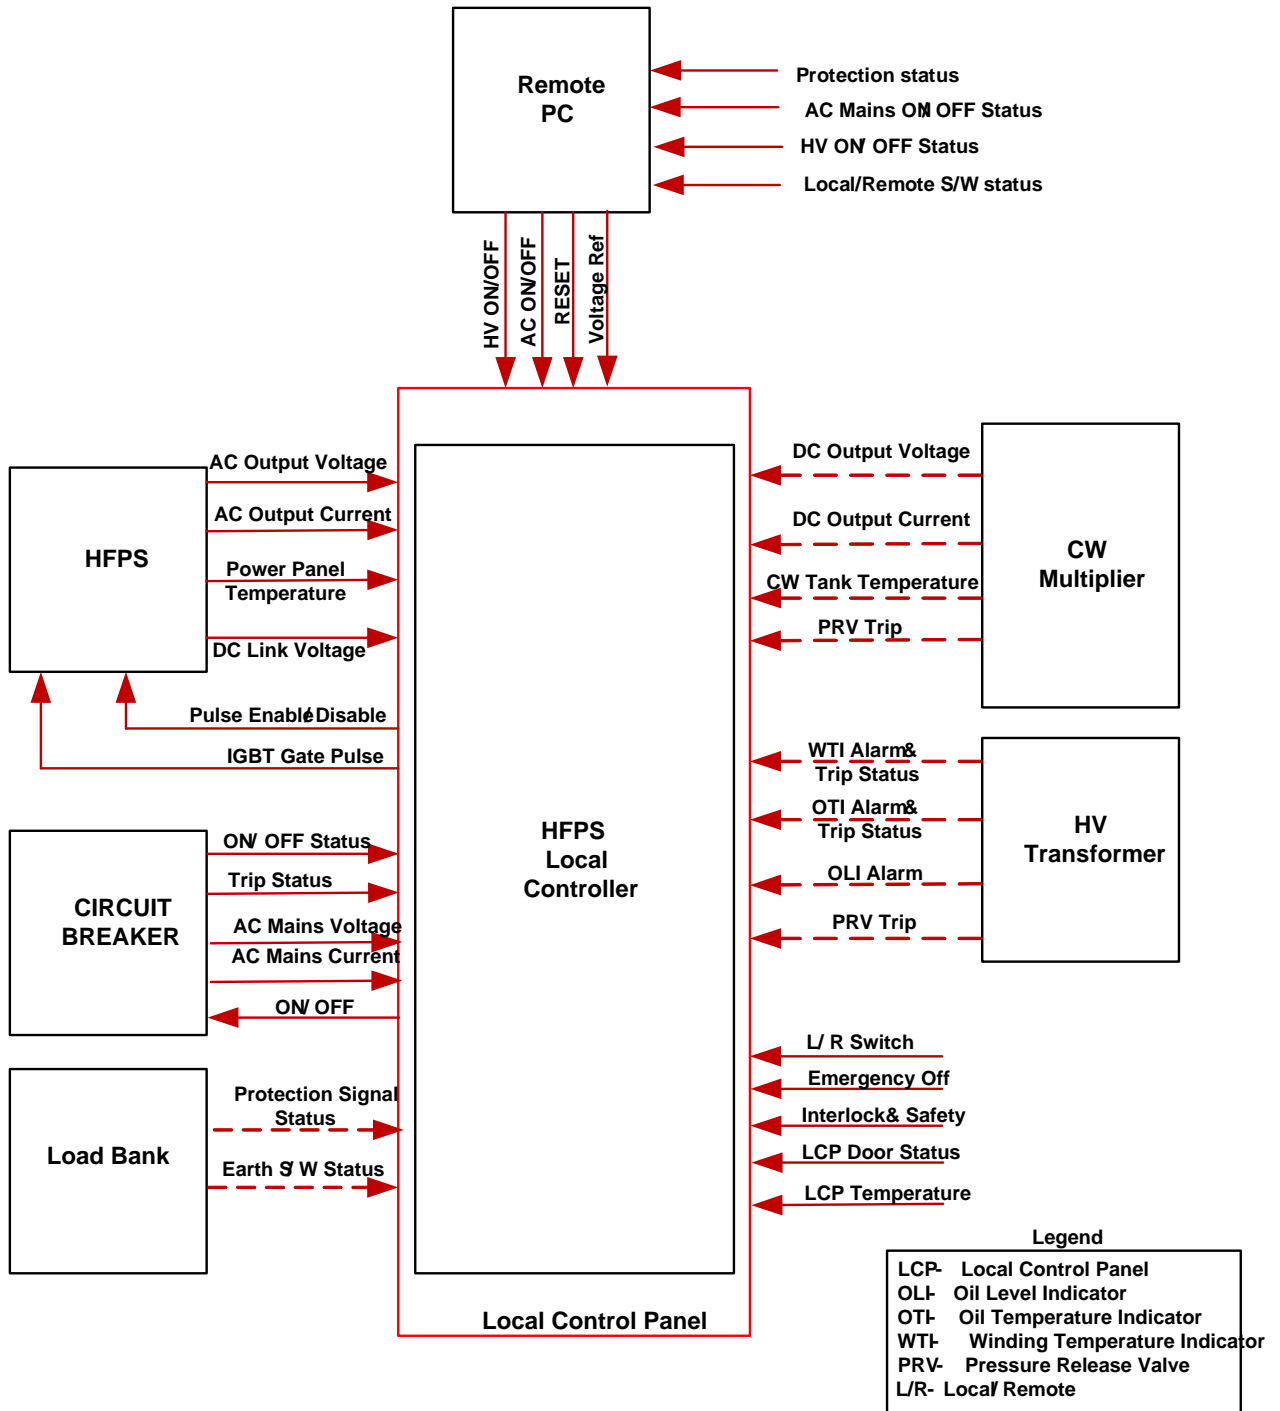

Figure-4: HFPS Unit Field Interface Diagram
- o) Tentative scheme of HFPS unit interface with other sub-system of DCPS is shown in Figure-4 of Annexure-I also the list of various interfacing signals within the HFPS unit and field signals is also given in Annexure-I. The details shall be submitted and proposed by bidders during the design phase after the award of contract.
The interface within HFPS unit and between HFPS unit and other sub-system of DCPS (field) is shown in Figure-4 below.